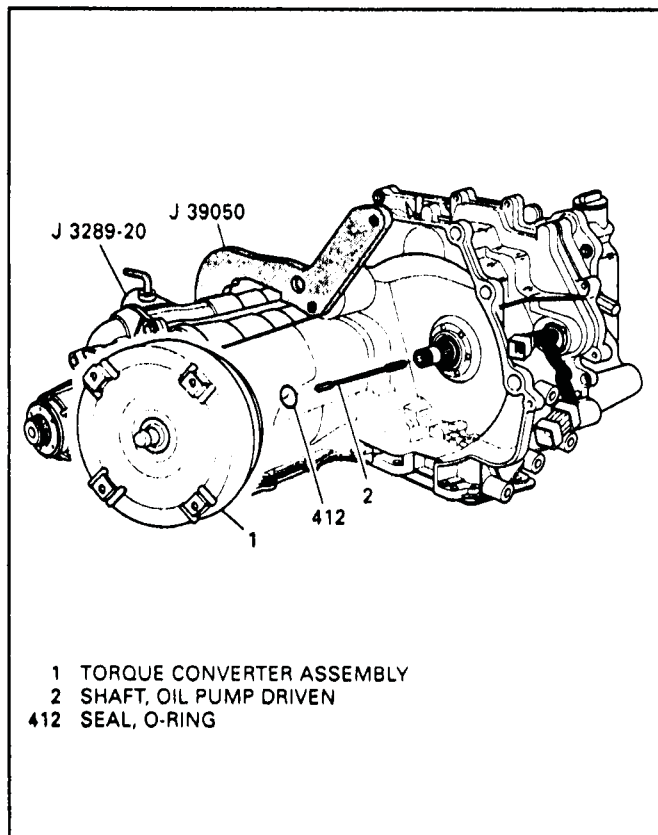

Figure 39
1. Install J-39050 support fixture onto the transaxle, as shown in Figure 39.
9. Remove the oil pump drive shaft as shown in Figure 39.
10. Remove the turbine shaft "O" ring as shown in Figure 39.